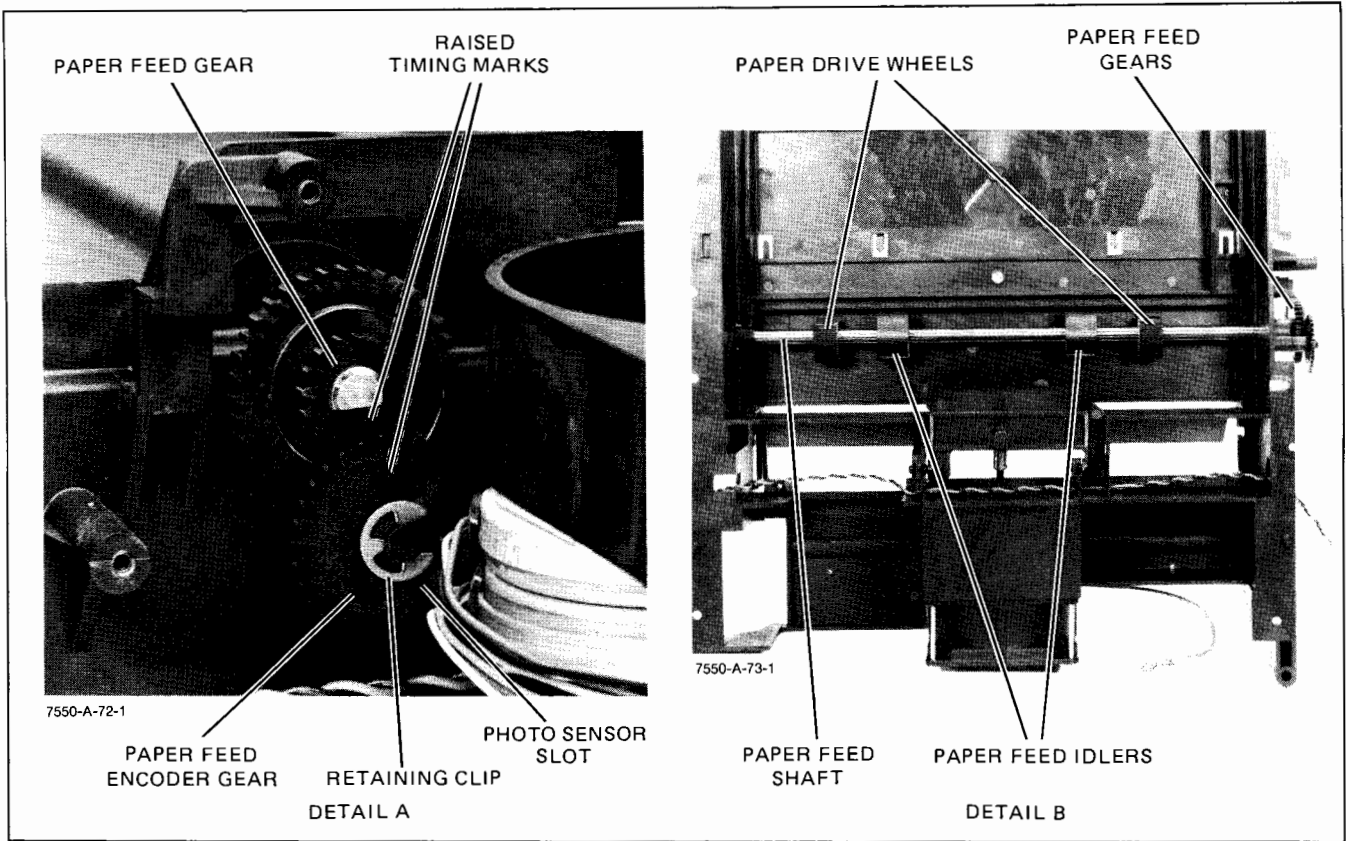

Figure 6-30. Paper Feed Gears and Idlers Removal
- Remove the paper feed encoder gear retaining clip and slide the gear off of the standoff. Note the positioning of the paper feed encoder gear timing mark in relation to the paper feed gear timing mark for reassembly. See Figure 6-30, Detail A.
- The paper feed idlers are snap-fit together. Carefully pry the idlers apart to remove. Note the position of the idlers on the slots on the paper feed shaft. See Figure 6-30, detail B.